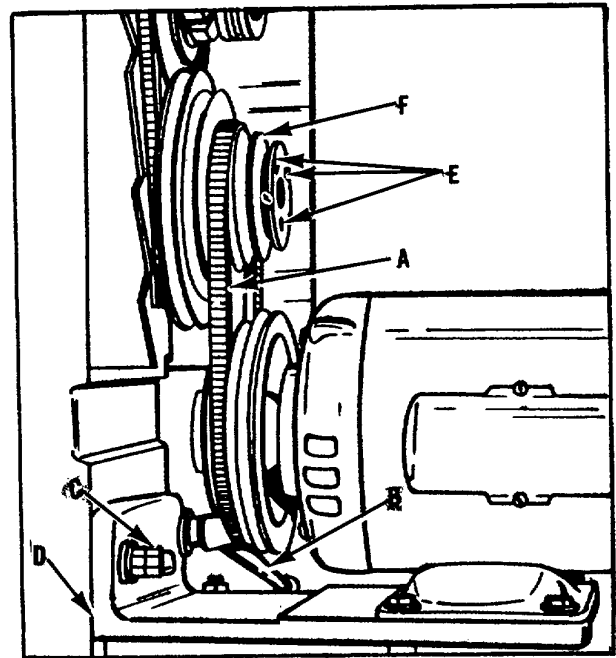

Fig. 20.
1. Remove the belt guard and the motor to countershaft belt (A) Fig. 20.
2. Disconnect the belt tension spring. Remove the motor plate clamping lever (B) and the nut (C) Fig. 20. Also remove the clamping lever located underneath the motor plate (D). Then remove the motor mounting plate, motor, and motor pulley as a unit.
3. Remove the three screws (E) Fig. 20, located on the face of the five step countershaft pulley (F), and remove the five step countershaft pulley (F).